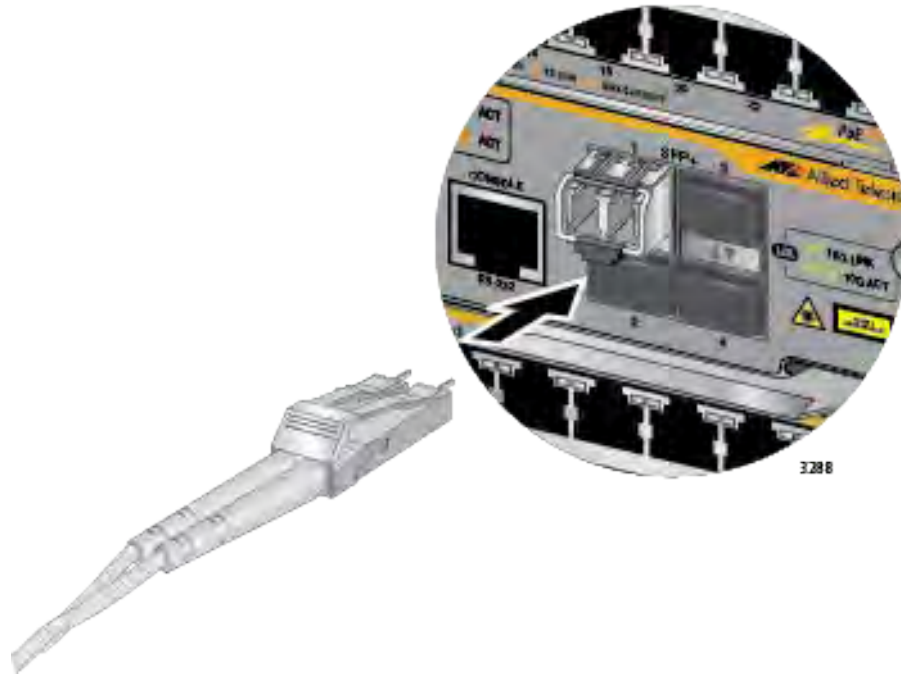

Figure 116. Attaching a Fiber Optic Cable to an SFP+ Transceiver in the AT-SBx81CFC960 Controller Fabric Card
6. Connect the fiber optic cable to the port on the transceiver, as shown in Figure 116 on page 194. The connector should snap into the port.